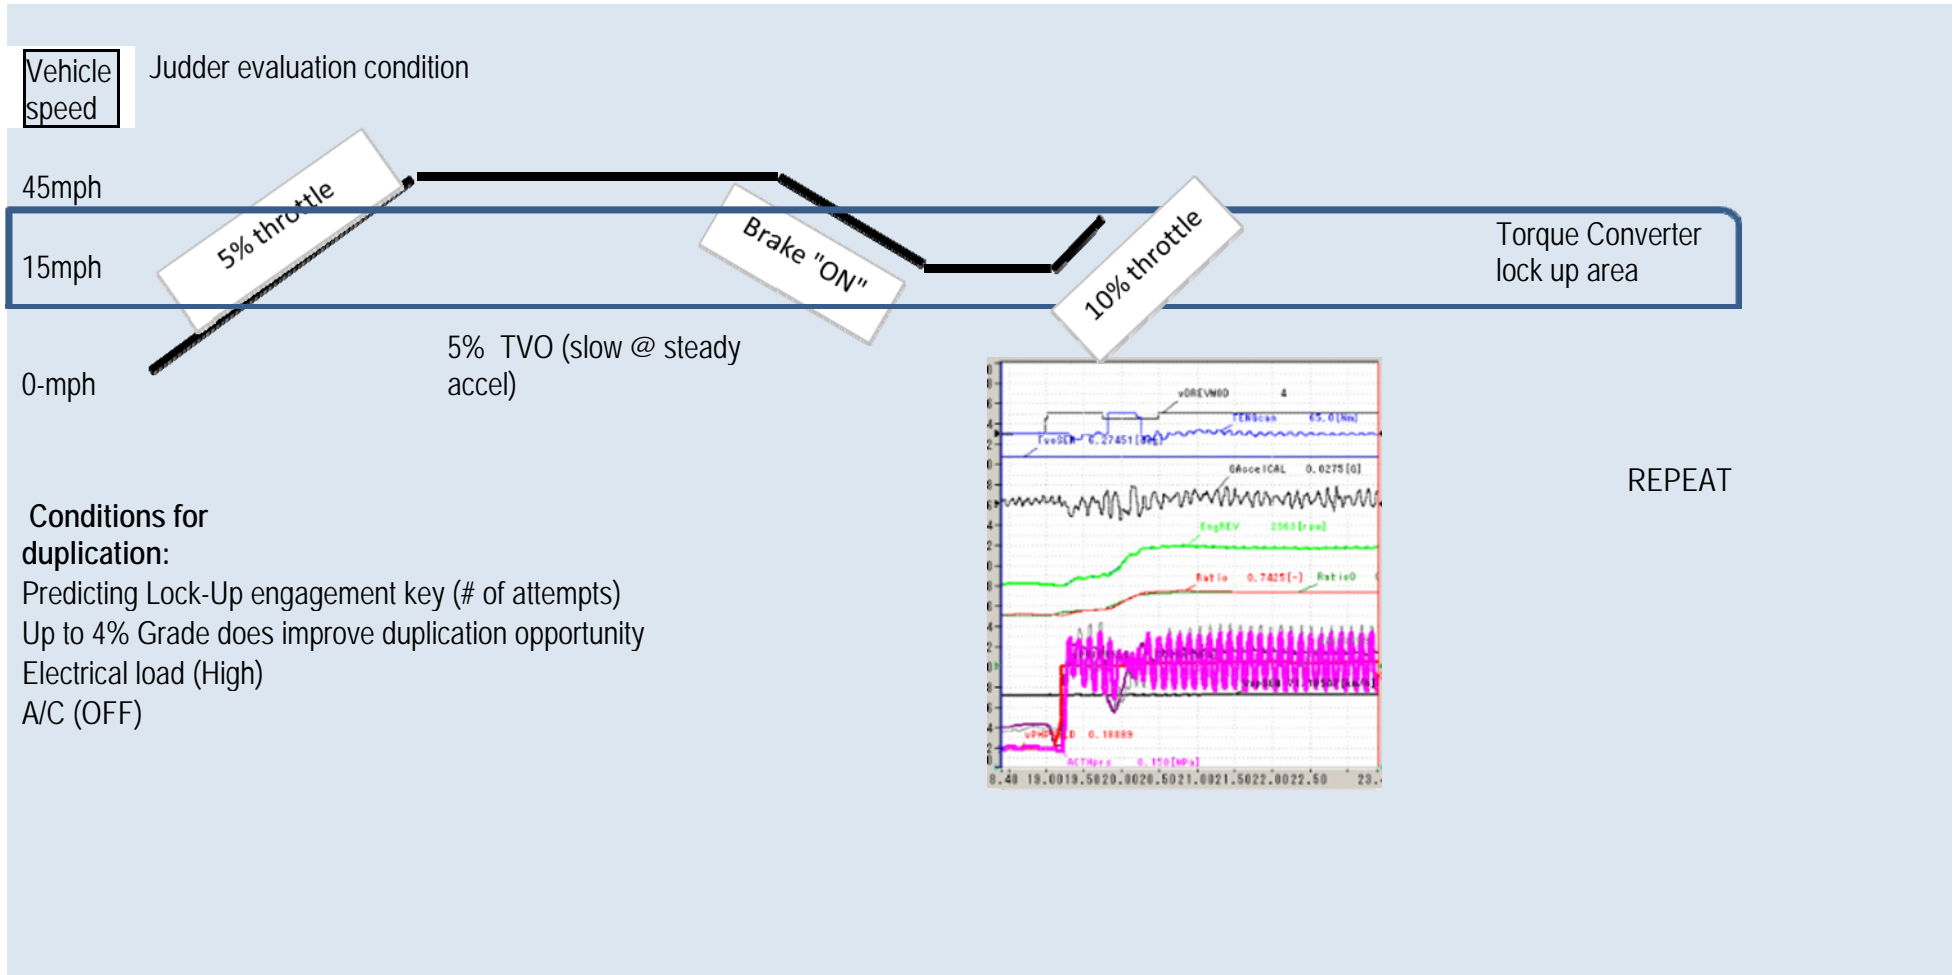

Figure 8
- Figure 8, on the next page, illustrates conditions under which judder can be reproduced.
- Figure 8 below illustrates conditions under which judder can be reproduced.